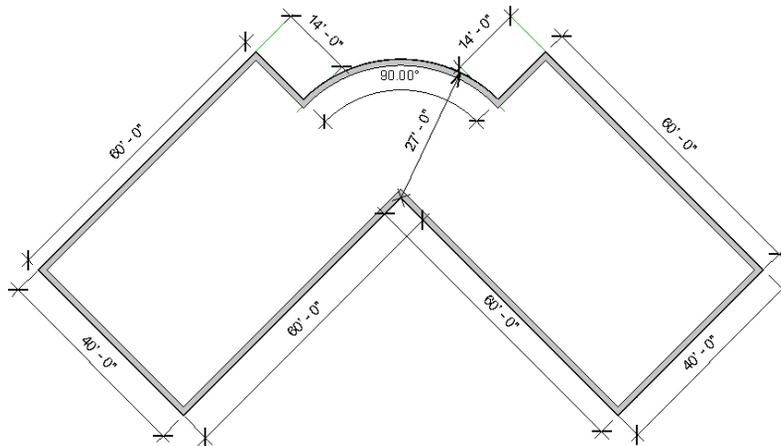

Figure 3-41 Sketch plan for the Club project
Create the exterior walls of the club building and its sketch plan is shown in Figure 3-41. The dimensions have been given only for reference and are not to be used in this tutorial. The parameters to be used for creating the exterior walls of the club building are given next.
- e. Change the **Location Line** parameter to **Finish Face: Exterior**, refer to Figure 3-41.